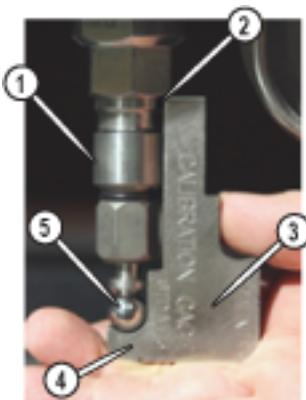

Figure 37
4. Install the **ball stem assembly** for the **nozzle** type being used into the **nozzle body**(Figure 37).